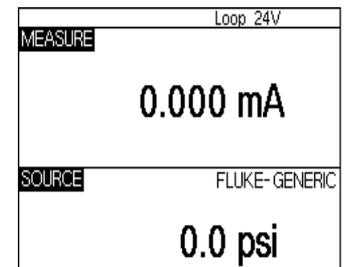

Figure 23
7. Next depress the "MEAS/SOURCE" button once and you should be in the split screen mode (Figure 23).